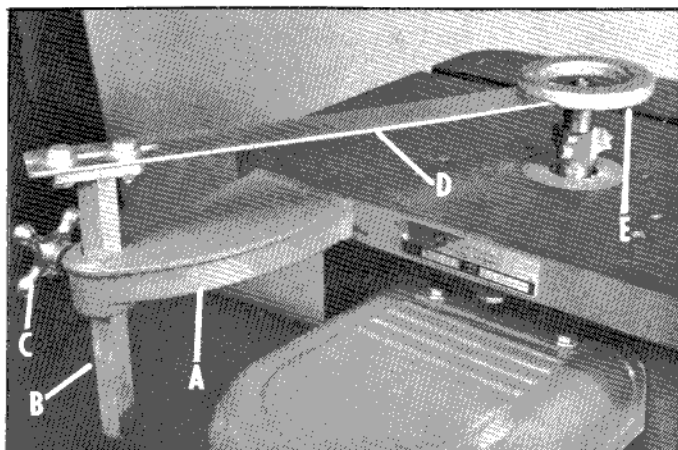

Fig. 22
1. Fasten the mounting bracket (A) to the rear of the shaper table using the two cap screws and nuts supplied, as shown in Fig. 22.
2. Place the hex post (B) Fig. 22, in the hex hole in the mounting bracket and lock in place with hand knob (C), as shown.
3. Assemble hold down bar (D) to the top of the post using the two cap screws, flat washers, lockwashers, and nuts, as shown in Fig. 22. The ring guard (E) should be positioned directly over the spindle and as close as possible to the cutter, as shown.